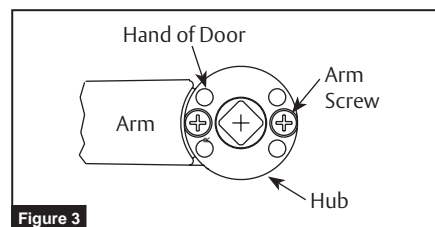

Figure 3
1. Remove arm screws and rotate hub so that appropriate L.H. or R.H. (hand of door) marking aligns with arm. (Figure 3)